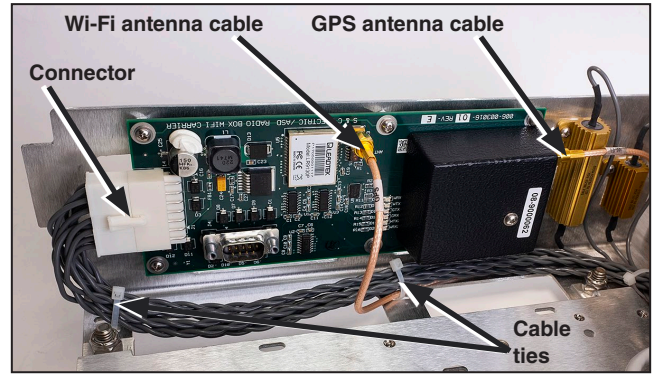

Figure 7. The R0 Wi-Fi/GPS module connections with no SCADA radio installed.
The R0 Wi-Fi/GPS module, with connections for power, data, and antenna, is mounted on the side of the radio tray. See Figure 7.
Follow these steps to remove the R0 Wi-Fi/GPS module circuit board. See Figure 7.
- STEP 4.** Cut the two indicated cable ties. See Figure 7.